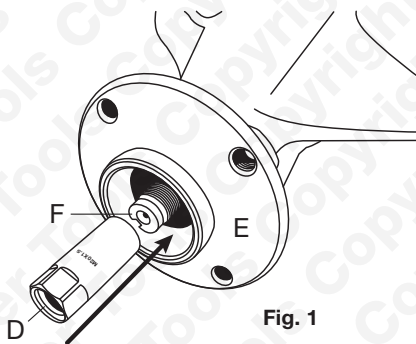

Fig. 1
- Screw correct adaptor **D** (see list) onto threaded end of drive shaft. (Fig. 1)